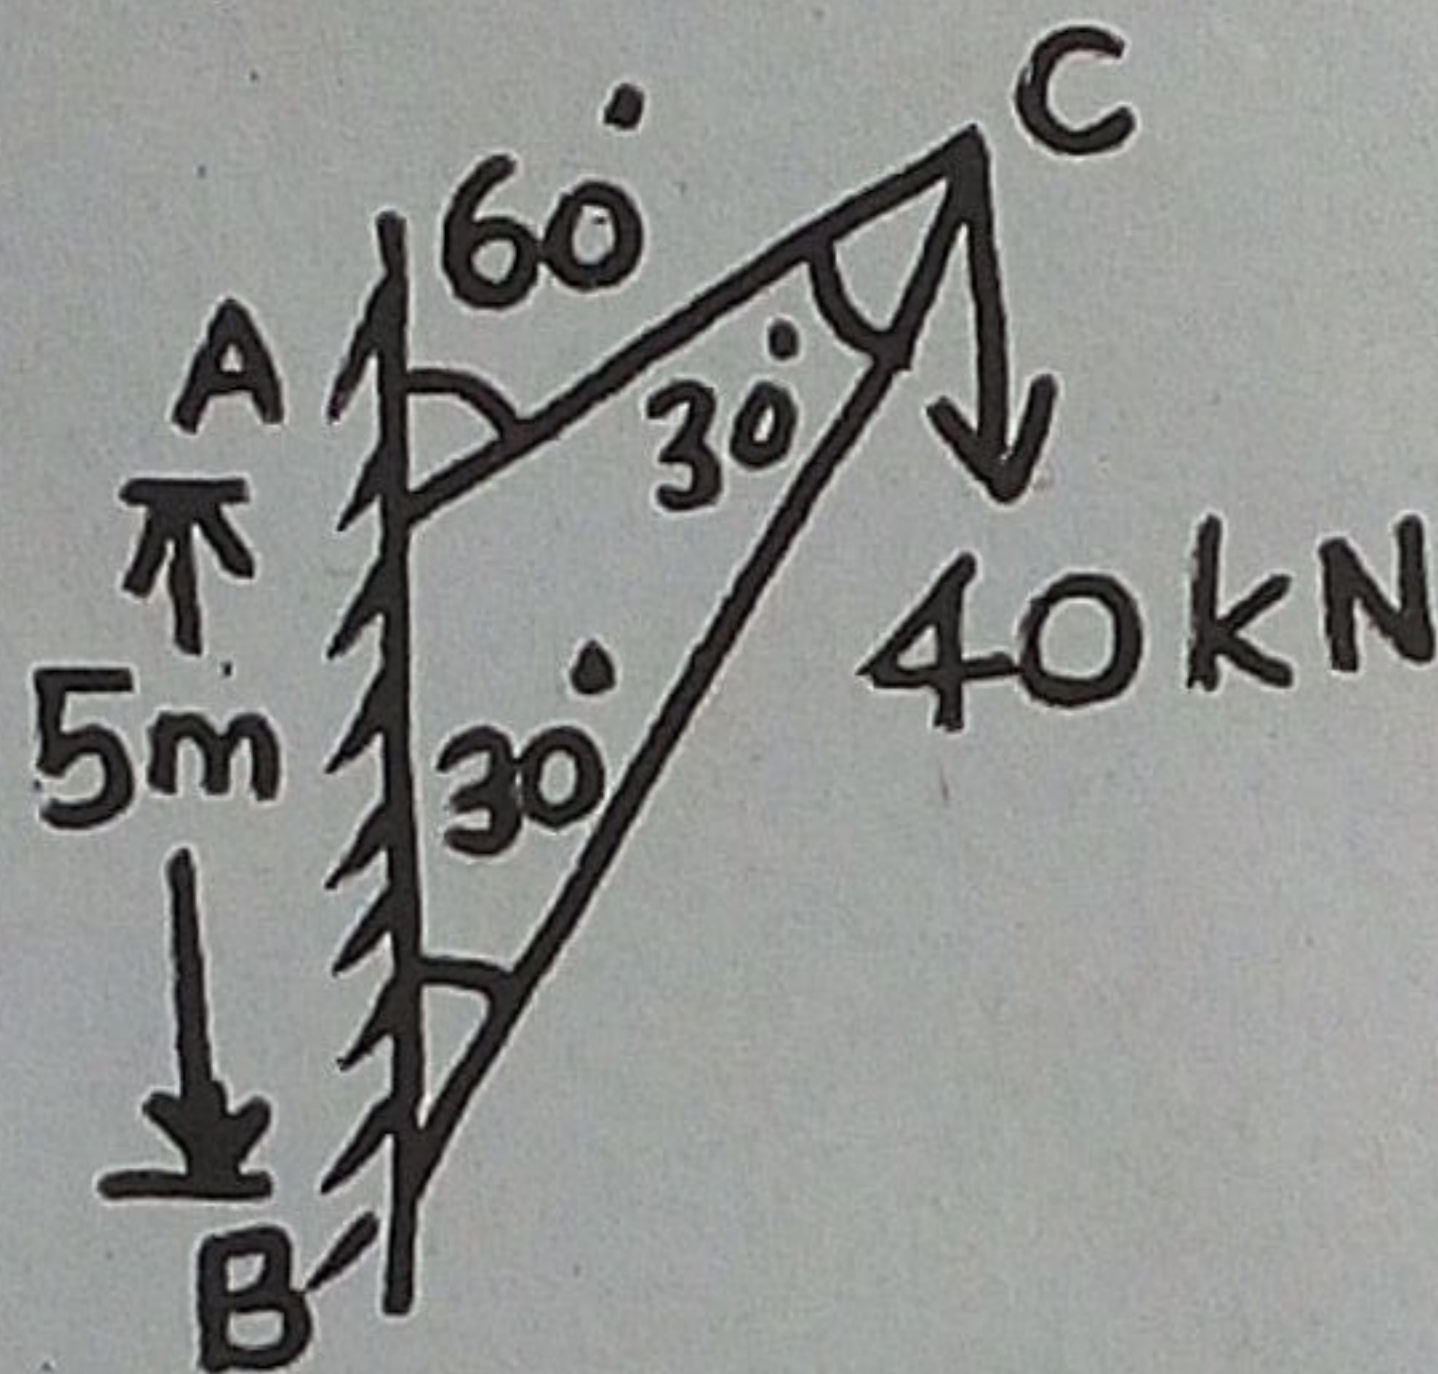

Fig. Q. 11(b)
- (b) A crane is shown in fig. Q. 11(b) the cross sectional area of the member AC is 3000 mm^2 and that of member BC is 7000 mm^2 . Determine the vertical deflection of the joint C. Take $E = 2.0 \times 10^5 \text{ N/mm}^2$. Use Williot diagram method.